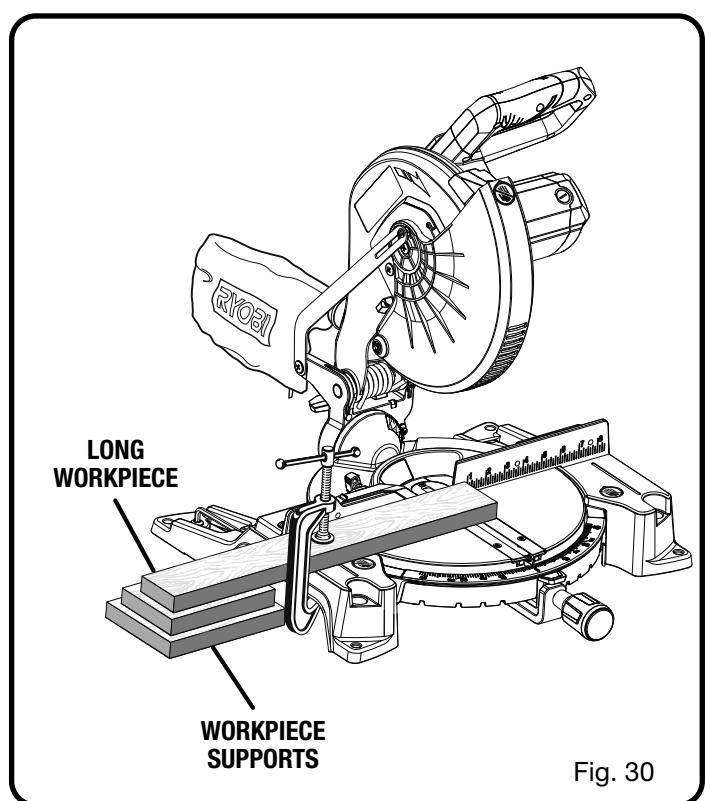

Fig. 30
- When cutting long pieces of lumber or molding, support the opposite end of the stock with a roller stand or with a work surface level with the miter table. See *Figure 30*.
See *Figure 30*.